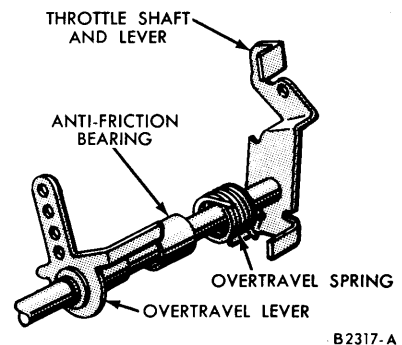

FIG. 24—Throttle Shaft Assembly
Remove the accelerating pump over-travel lever retainer (Fig. 24) and slide the anti-friction bearing, spring and lever off the primary throttle shaft.
1. If the throttle plates were removed, install the accelerator over-travel spring anti-friction bearing on the accelerator over-travel lever boss. Place the accelerator over-travel spring, with the shortest tang end first, over the bearing on the over-travel lever (Figs. 24 and 26). Place the short tang of the spring under the lug on the over-travel lever. Slide the over-travel lever spring and bearing assembly on the primary throttle shaft. Hook the longest tang